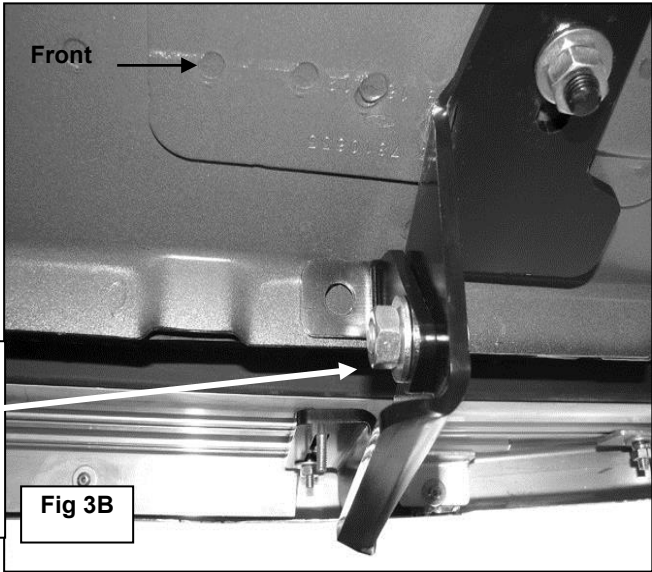

Fig 3B
2. Select the driver side front Support Bracket, **(Figure 3A)**. Bolt the Support Bracket to the back of the front Bracket with (1) 10mm x 30mm Hex Bolt, (2) 10mm x 20mm STD Flat Washers, (1) 10mm Lock Washer and (1) 10mm Hex Nut, **(Figure 3B)**. Line up the mounting tab on the Support Bracket with the back of the pinch weld. Do not tighten hardware at this time.